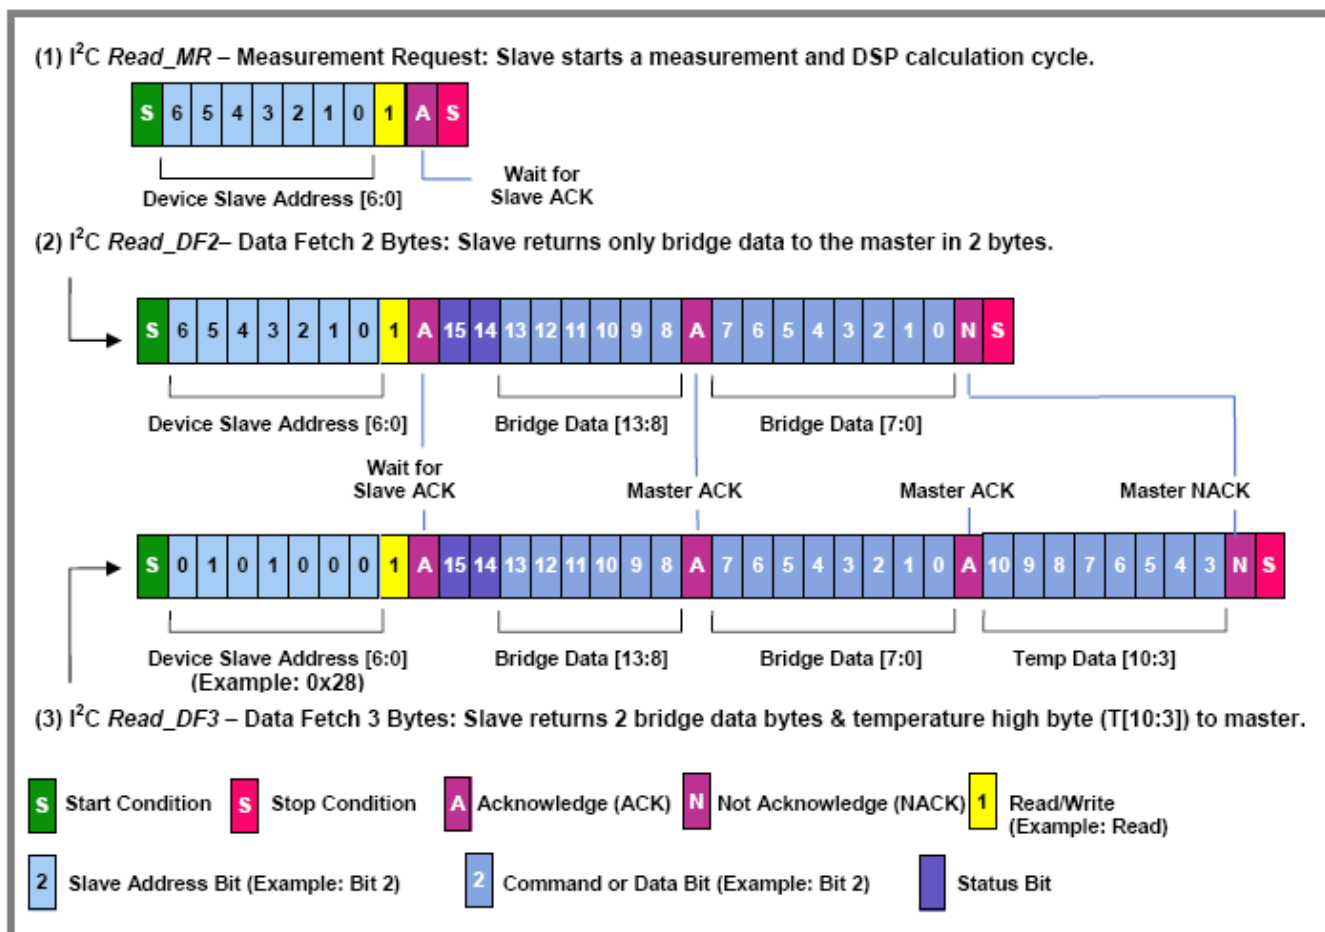

Figure 1.6 – I2C Measurement Packet Reads
The I2C master command starts with the 7bit slave address with the 8th bit =1 (READ). The sensor as the slave sends an acknowledge (ACK) indicating success. The sensor has four I2C read commands: Read_MR, Read_DF2, Read_DF3, and Read_DF4. Figure 1.6 shows the structure of the measurement packet for three of the four I2C read commands, which are explained in sections 1.6.1 and 1.6.2
The Read_MR (see example 1 in Figure 1.6) communication contains only the slave address and the READ bit(1) sent by the master. After the sensor responds with the slave ACK, the master must create a stop condition. This is only used in Sleep Mode (see section 3.1.2) to wake up the device and start a complete measurement cycle (including the special measurements) followed by the DSP calculations and writing the results to the digital output register.
For Data Fetch commands, the number of data bytes returned by the sensor is determined by when the master sends the NACK and stop condition. For the Read_DF3 data fetch command (Data Fetch 3 Bytes; see example 3 in Figure 1.6), the sensor returns three bytes in response to the master sending the slave address and the READ bit (1): two bytes of bridge data with the two status bits as the MSBs and then 1 byte of temperature data (8-bit accuracy). After receiving the required number of data bytes, the master sends the NACK and stop condition to terminate the read operation. For the Read_DF4 command, the master delays sending the NACK and continues reading an additional final byte to acquire the full corrected 11-bit temperature measurement. In this case, the last 5 bits of the final byte of the packet are undetermined and should be masked off in the application. The Read_DF2 command is used if corrected temperature is not required. The master terminates the READ operation after the two bytes of bridge data (see example 2 in Figure 1.6).